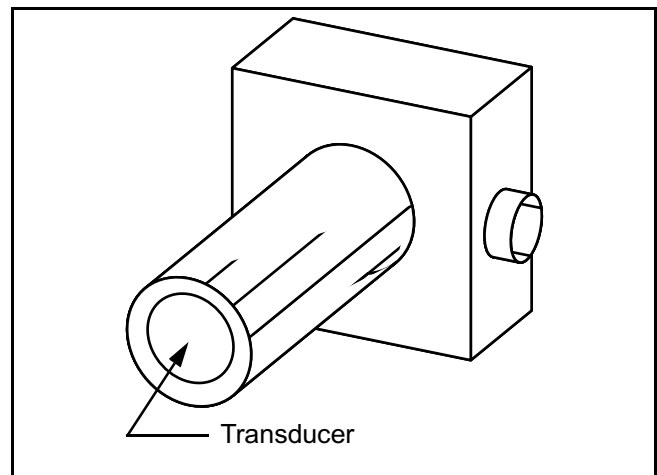

Figure 4 - 27 Cleaning sonic sensor
- 3) Check transducer daily for material buildup. The transducer can be cleaned with Simple Green cleaning fluid. Place cleaning fluid on a clean rag and rub transducer gently to remove any material. Wipe transducer clean and dry (Figure 4 - 27).